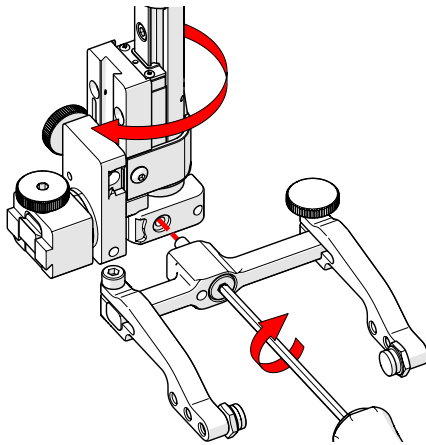

Fig. 141 - Screw yoke to opposite side
6. Mount the yoke to the opposite side of the base using the supplied 3 mm hex driver (Fig. 141).